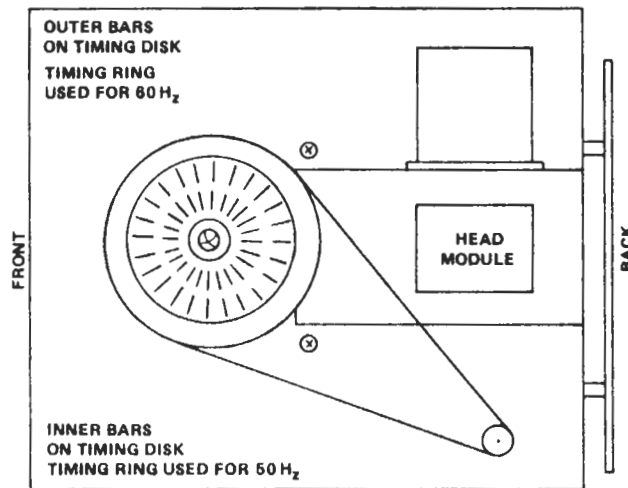

Figure 2-1
- 2.1.1.5 Observe the speed disk on the spindle pulley under fluorescent lighting (see Figure 2-1).